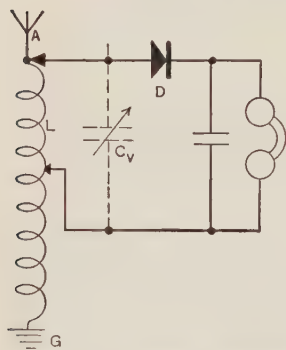

FIGURE 701.—SIMPLE CRYSTAL DETECTOR CIRCUIT.
**482. A Simple Receiving Circuit.**—Let us assume that a distant sending circuit is radiating electric waves. The receiving circuit will, as shown above, be an oscillating circuit consisting of an inductance and a capacity (condenser) joined in series. Joined to this oscillating circuit are a detector (*D*) and telephone receivers (Figure 701). The condenser of the receiving circuit is the *aërial* or *antenna* (*A*), consist-
the length of the inductance actually employed may be varied. This makes it possible to make this circuit resonate with the particular wave length that it is desired to receive. This variable inductance is called a *tuning coil*. By introducing a variable condenser ( $C_v$ ) in the circuit (Figure 701), the oscillations of the circuit may be increased, and the received signals made clearer. Such a set is called a *conductively coupled*, or *single-circuit* receiving set.